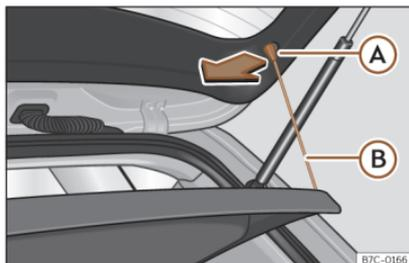

Fig. 134 In the luggage compartment: removing and fitting the shelf.
- Detach the cord loops»» **Fig. 134** (B) from their hooks (A).
- Hook the loops»» **Fig. 134** (B) to the rear lid.